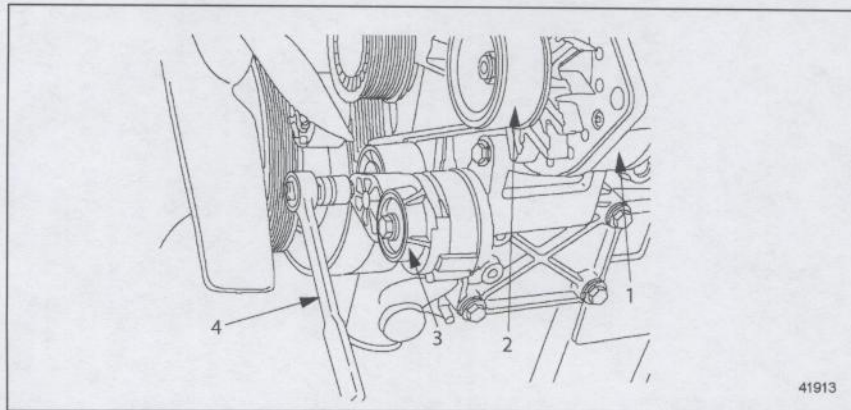

Figure 3 Removing Main Drive Belt
18. Release the belt tensioner pulley, and remove the main drive belt from the alternator pulley. See Figure 3.